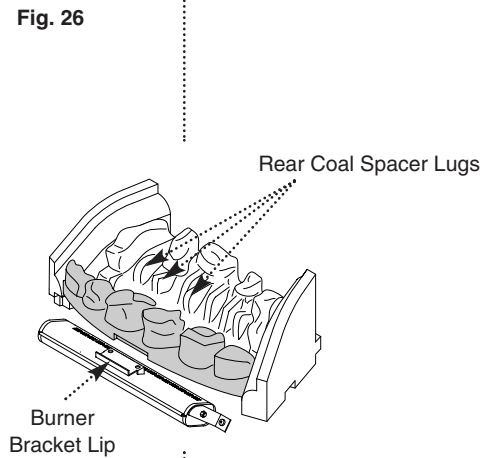

Fig. 26 Rear Coal Spacer Lugs
4. Locate the front coal onto the rear coal side support ledges and behind the lip of the burner bracket (Figs. 26 & 27).